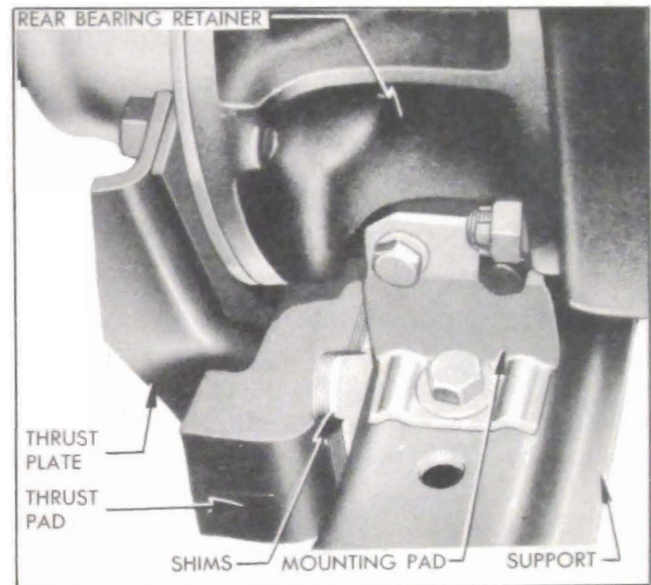

Figure 2-47—Transmission Mounting and Thrust Pads and Shims
7. With engine and transmission resting freely and normally on mounting pads, install sufficient shims between the thrust pad and transmission support to snugly fill the existing space. Insert shims from above, with tabs on right side in Syncro-Mesh cars or left side in Dynaflo Drive cars. See figure 2-47.